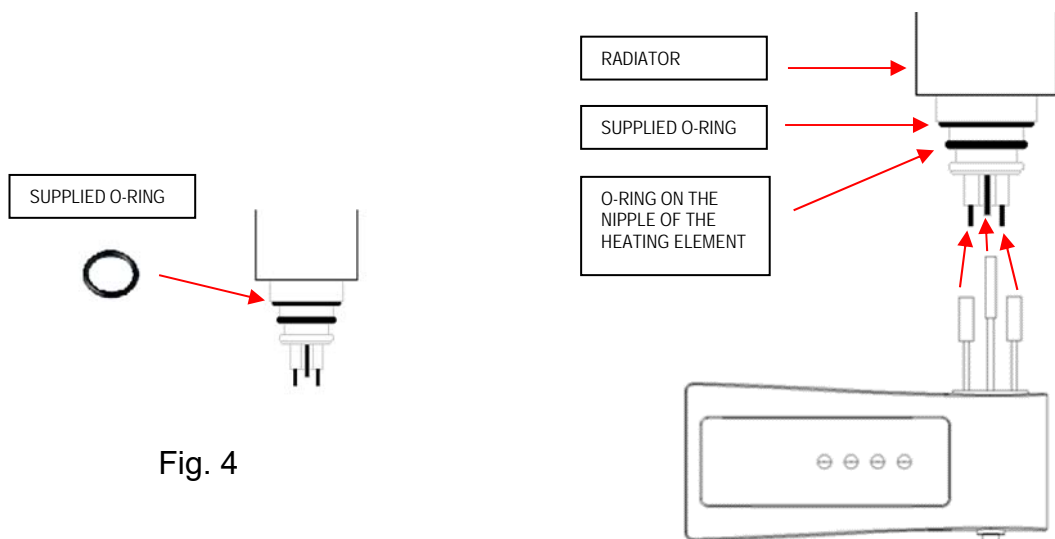

Fig. 5
3. Delicately remove the wires from the hole in the top of WHISTLE and connect them to the electric heating element. For class I product connect the cylindrical contact on the yellow-green wire to the heating element pin. Connect the red wires, which are interchangeable, to the flat contacts (Fig. 5).